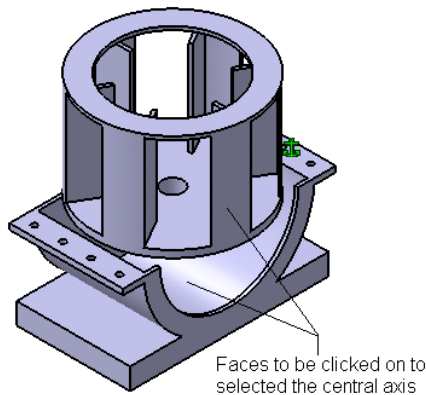

Figure 11-71 Faces to be clicked to select the central axes
- f. Now, insert and constrain the Motor, the Motor Shaft, and the Cover refer to Figures 11-71 through 11-77.
2. Now, insert the Blower in the assembly. Choose the **Coincidence Constraints** button and select the faces shown in Figure 11-71 to select the central axes of these faces.